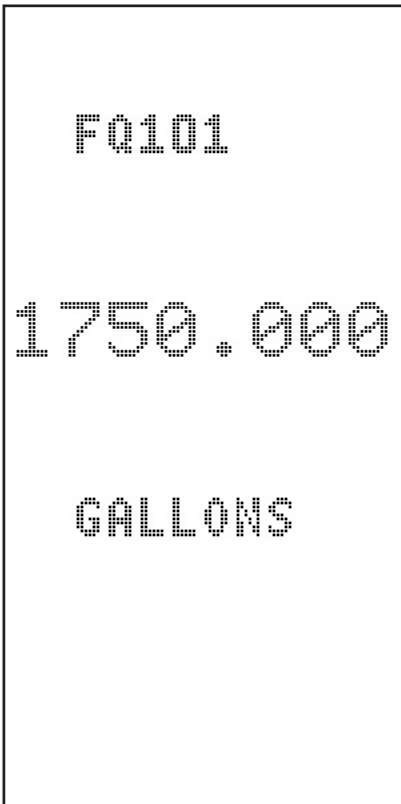

Figure 12: Totalizers
Totalizer - Each 53MC5000 controller has eight (8) totalizers as a standard feature. Each totalizer can be customer configured to accept inputs from a variety of sources including the normal analog input signals or a calculated value from within the controller. Scaling parameters allow a wide range engineering units options (gallons, Kgallons, Mgallons, etc.). Each totalizer also has a user definable rollover value and the ability to soft-wire the rollover to a contact output. A momentary pulse is generated each time the totalizer rolls-over. Refer to Fig. 12.